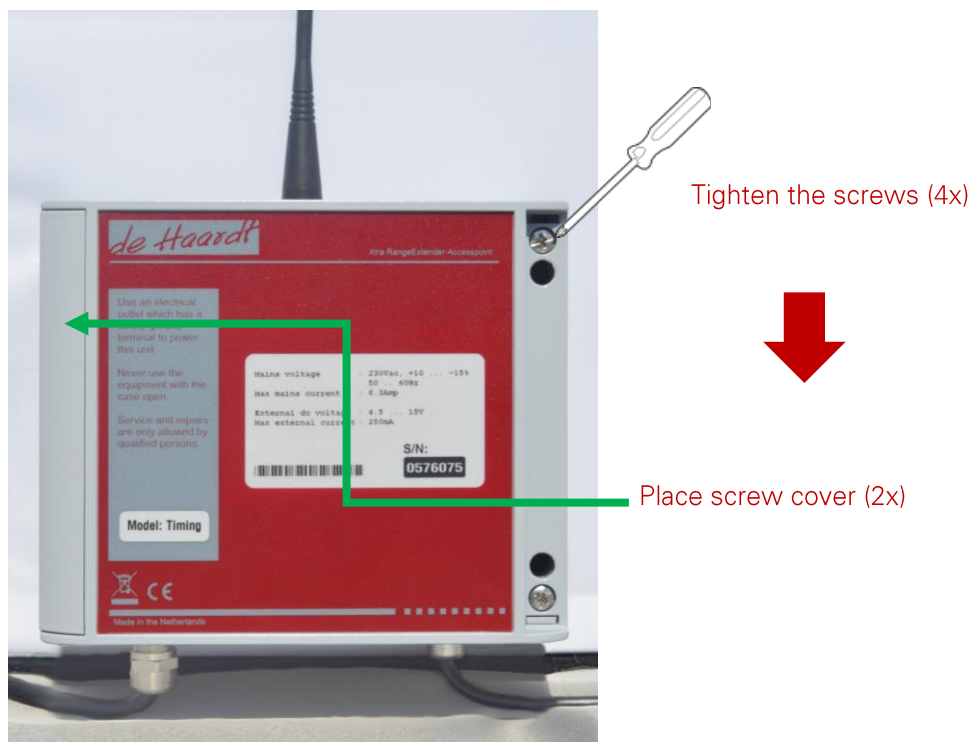

Figure 13: front view, attaching the sealing cap and the screw covers on the Xtra.Range Extender
19. Assemble the Xtra.Range Extender by fastening the cover (tighten 4 screws) and placing the screw covers (2x) (Figure 13).